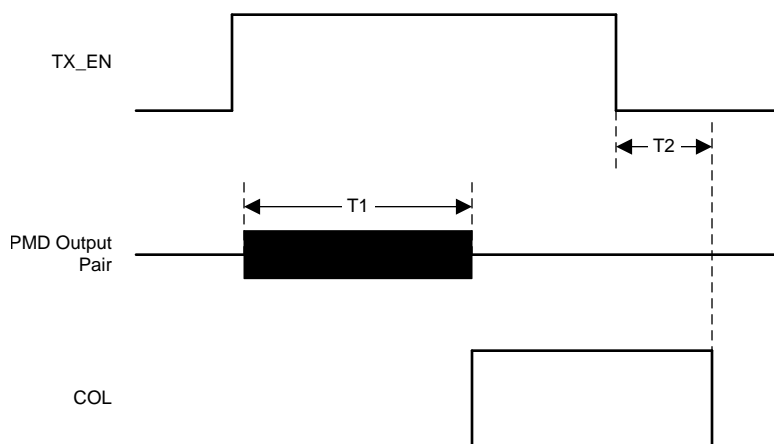

Figure 14. 10BASE-Te Jabber Timing
(1) Ensured by production test, characterization or design.
(2) See Figure 14.